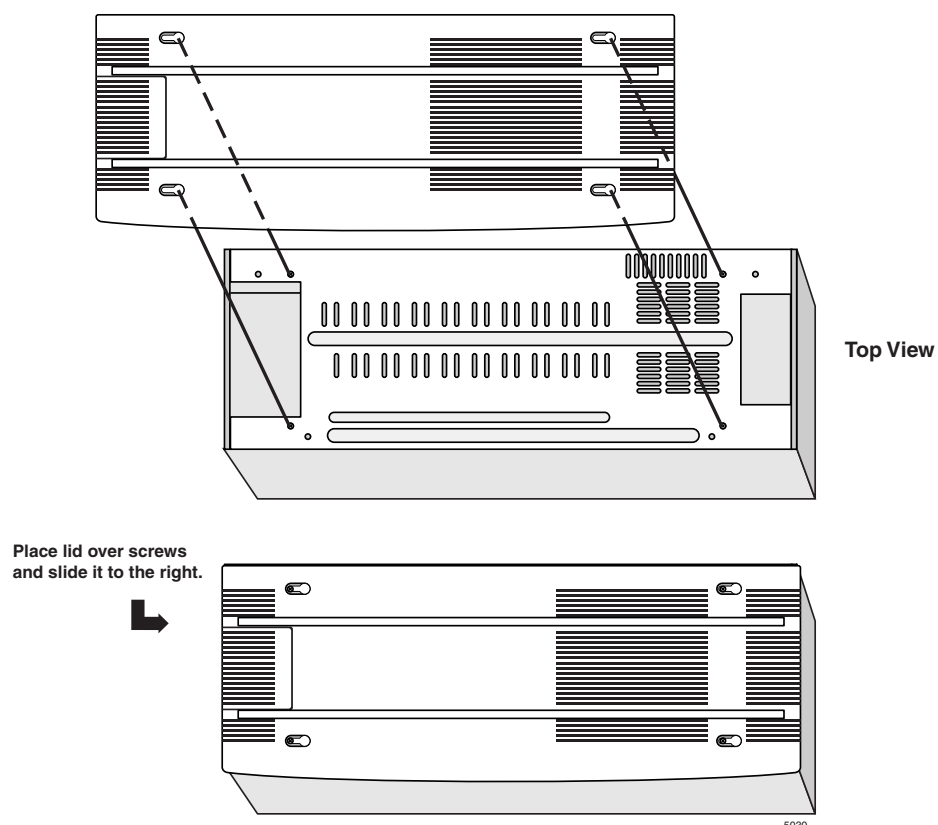

Figure 3-30 Remove/Replace Remote Cabinet Cover
5. Install a BCTC1A top cover on the topmost cabinet (see Figure 3-30).